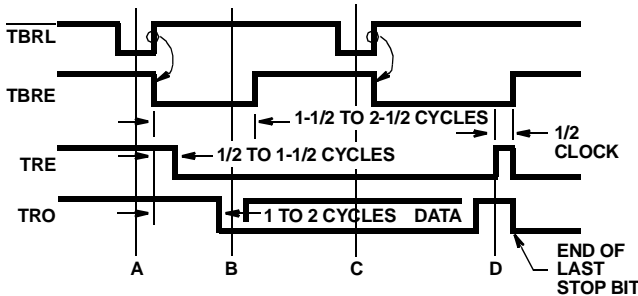

FIGURE 3. TRANSMITTER TIMING WAVEFORMS
Transmitter timing is shown in Figure 3. (A) Data is loaded into the transmitter buffer register from the inputs TBR1 through TBR8 by a logic low on the TBRL input. Valid data must be present at least  $t_{DT}$  prior to, and  $t_{TD}$  following, the rising edge of TBRL. If words less than 8-bits are used, only the least significant bits are used. The character is right justified into the least significant bit, TBR1. (B) The rising edge of TBRL clears TBRE. 1/2 to 1 1/2 cycles later, depending on when the TBRL pulse occurs with respect to TRC, data is transferred to the transmitter register and TRE is cleared. TBRE is set to a logic High one cycle after that. (C) A second pulse on TBRL loads data into the transmitter buffer register. Data transfer to the transmitter register is delayed until transmission of the current character is complete. (D) Data is automatically transferred to the transmitter register and transmission of that character begins.